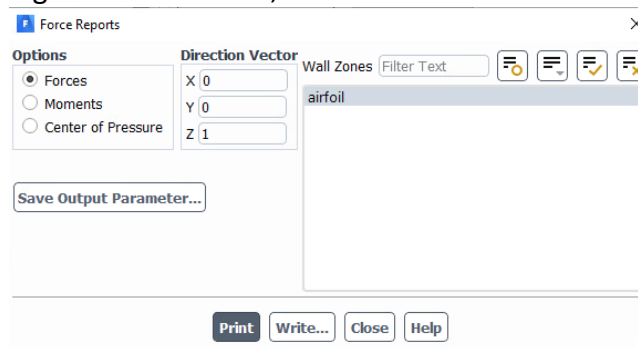

Figure 25. Lift Force Report settings
4.5. To get the lift force and lift coefficient, similar steps are followed with different direction vector. Double click on **Forces** to open up “Force Reports” again. Be sure to set the **Direction Vector** to “X=1”, “Y=0”, and “Z=0”, as shown in Figure 25. Click **Print**, and click **Close**.